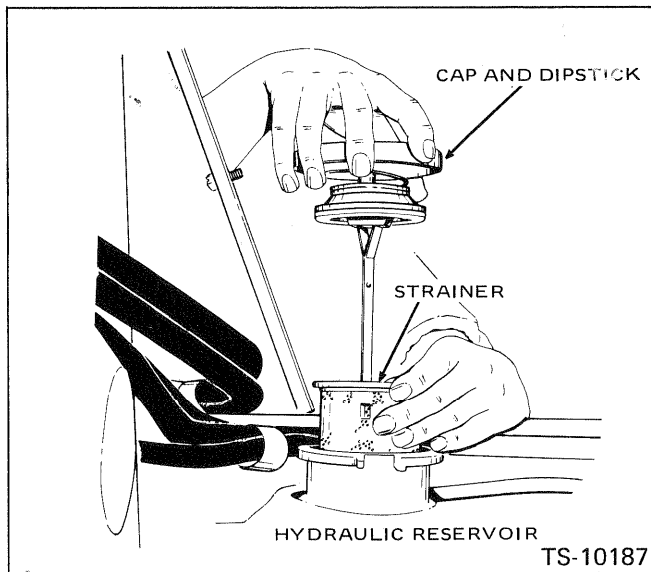

Fig. 10-1 Hydraulic Reservoir, Cap, Dipstick and Strainer
Remove the reservoir cap and dipstick and wipe with a clean, lint-free cloth. Replace the cap and dipstick to check the oil level. Maintain the oil level to the FULL mark on the dipstick. Fig. 10-1
6. Refill the transmission and torque converter with the type of fluid specified in this manual through the filler neck (Fig. 10-1) until the correct level shows on the dipstick. Approximate capacity—4.5 gallons (Imperial measure), 5.4 gallons (U.S. measure).